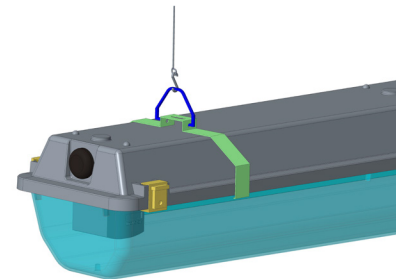

FIG 3
3. Suspend the fixture via chain or aircraft cable (Fig 3).